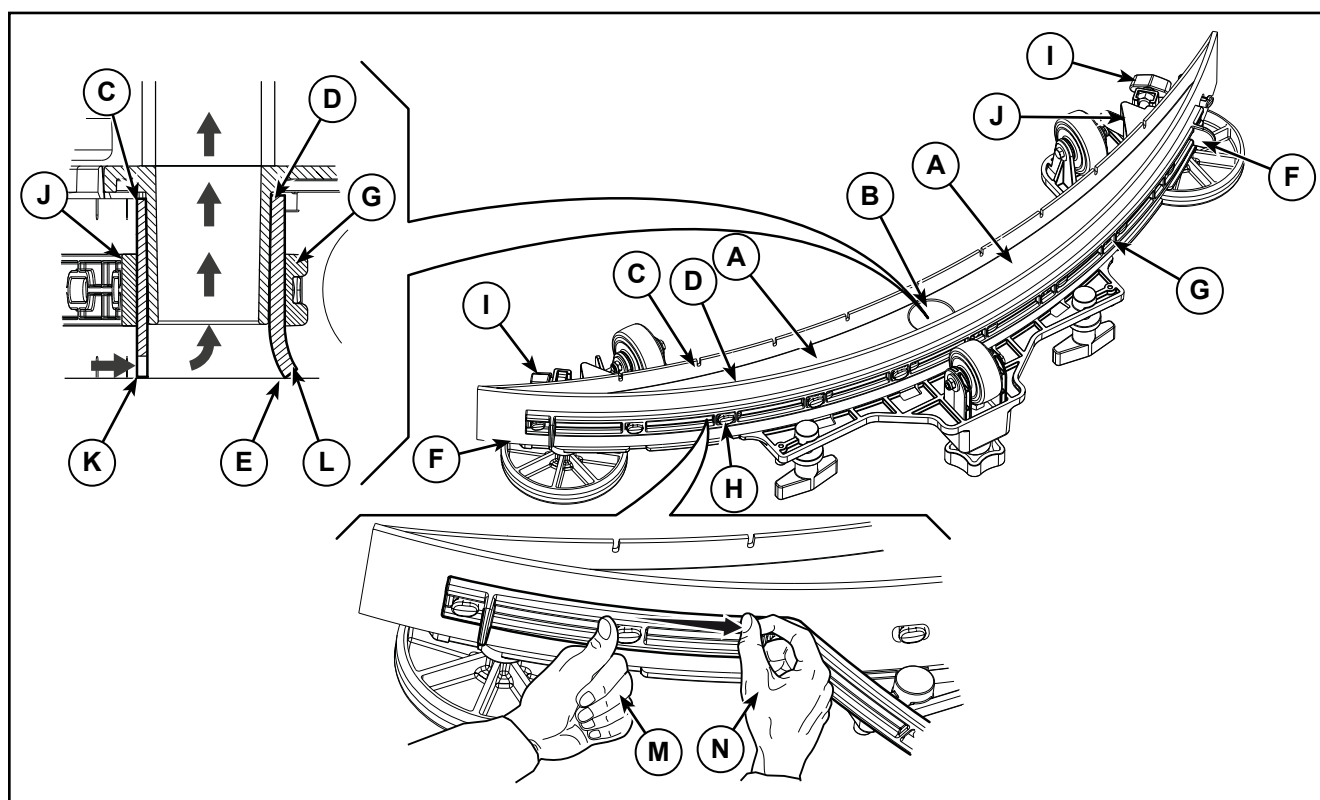

Figure 3:
2. Check the condition of the front (C) (Figure 3) and rear (D) blades, ensuring there are no cuts and tears; if necessary, replace them as shown below. Check that the front corner (E) of the rear blade is not worn; otherwise, turn the blade to replace the worn corner with one of the three remaining intact corners. If the other corners are worn too, replace the blade according to the following procedure:
- Using the tab (F), release and remove the elastic strap (G) from the fasteners (H), then turn or replace the rear blade (D).
- Install the blade in the reverse order of removal. Fix the elastic strap (G) to the fasteners (H) starting from one side. Constrain to the fastener one by one, with the hand (M) blocking the elastic strap before the fastener and pulling with the other hand (N) for fixing
- Unscrew the handwheels (I) and remove the strap (J), then turn or replace the front blade (C).
- Check that the lip (K) of the front blade (C) and the lip (L) of the rear blade (D) are resting as shown in the figure.